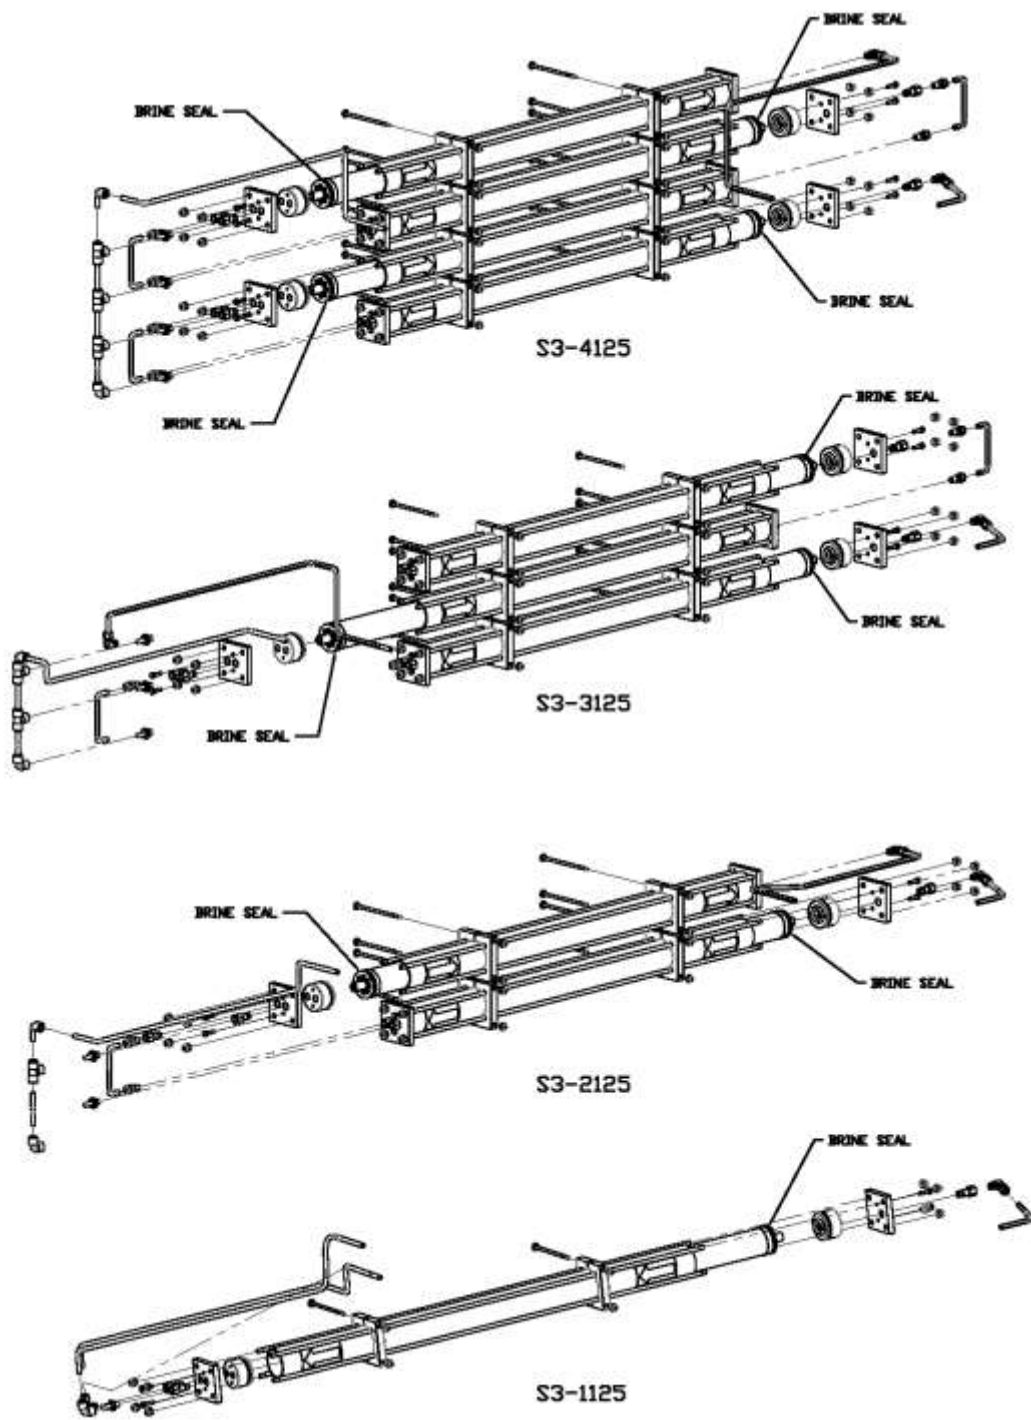

Figure 3
3. Install membranes with brine seal location depicted in. (Figure 3, Page 15)